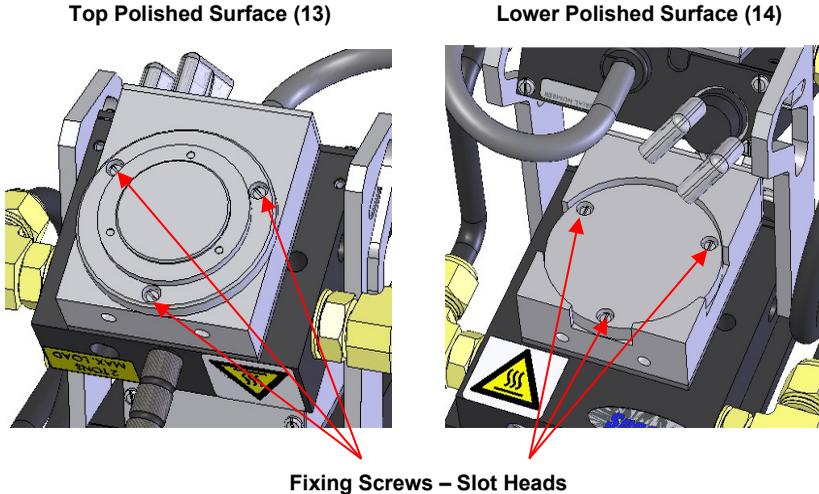

Fig 20. Top and Lower Polished Pressing Surfaces Fixing Screws
- The size of spacer ring (18) used.
- The positioning of the foil discs (21) if thin films with fringing patterns are to be prepared.
- The quantity of sample used for the spacer ring (18) size that is chosen.
Both the top (13) and lower (14) platen polished surfaces are removable from their respective heated pressing assemblies (4) and (5) by releasing their three fixing screws in each case. (See **Fig 20.**)